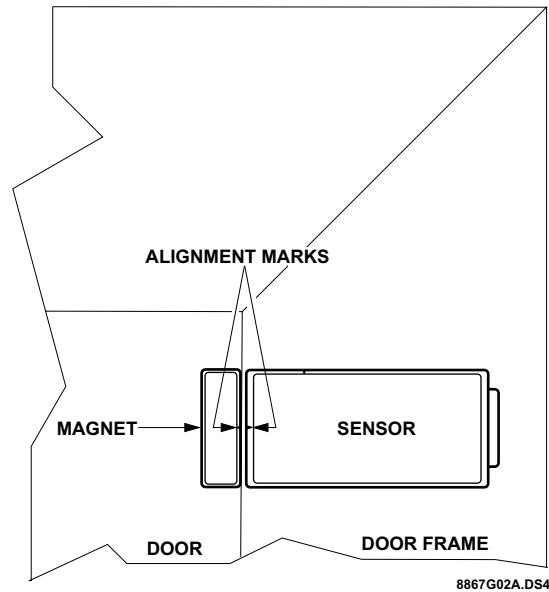

Figure 3. Mounted Sensor and Magnet
- Remove the magnet from its base. Mount the magnet base no more than 3/8 inches away from the sensor base (see Figure 3). Replace magnet cover.)